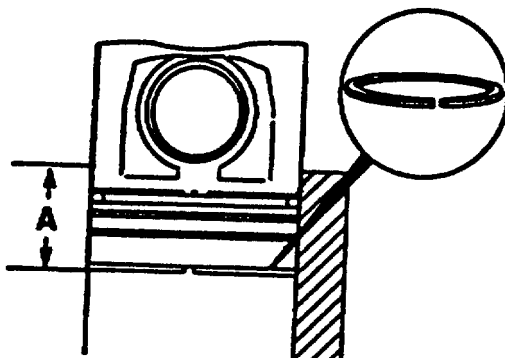

FIGURE 4-47. Checking Piston Ring Cap.
- (1) Position each ring in the cylinder and use a piston to square it with the bore as shown in FIGURE 4-47.